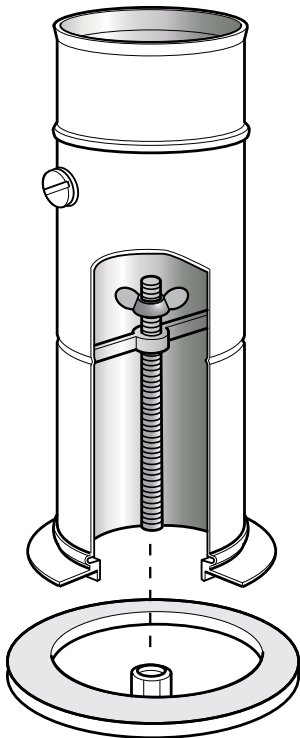

Figure 9-8: Boiler flue connector
4. Fit washer and wing nut provided onto the end of threaded studding and secure connector in position by tightening down on wing nut – as shown in Figure 9-8.